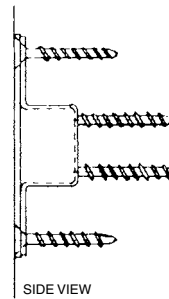

Figure 13.51 Strike box into the door frame. (M.A.G. Engineering and Mfg., Inc.)
8. Insert the strike box. Place the finished strike plate over the strike plate box and secure it with screws provided (Fig. 13.51).